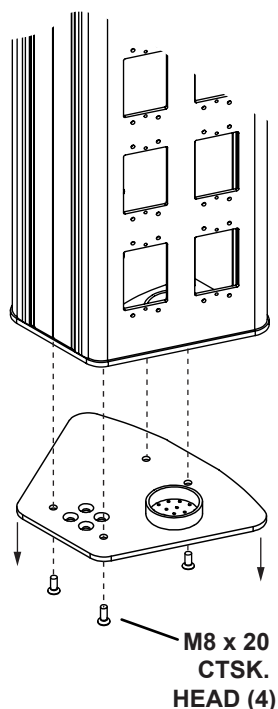

Figure 1. Remove the bottom plate
1. Remove the plate on the bottom of the carrier (Figure 1). Use an impact screwdriver with a #3 Phillip's head bit to remove the four corner screws holding the plate in place. Hold the plate up so it does not drop on the floor.